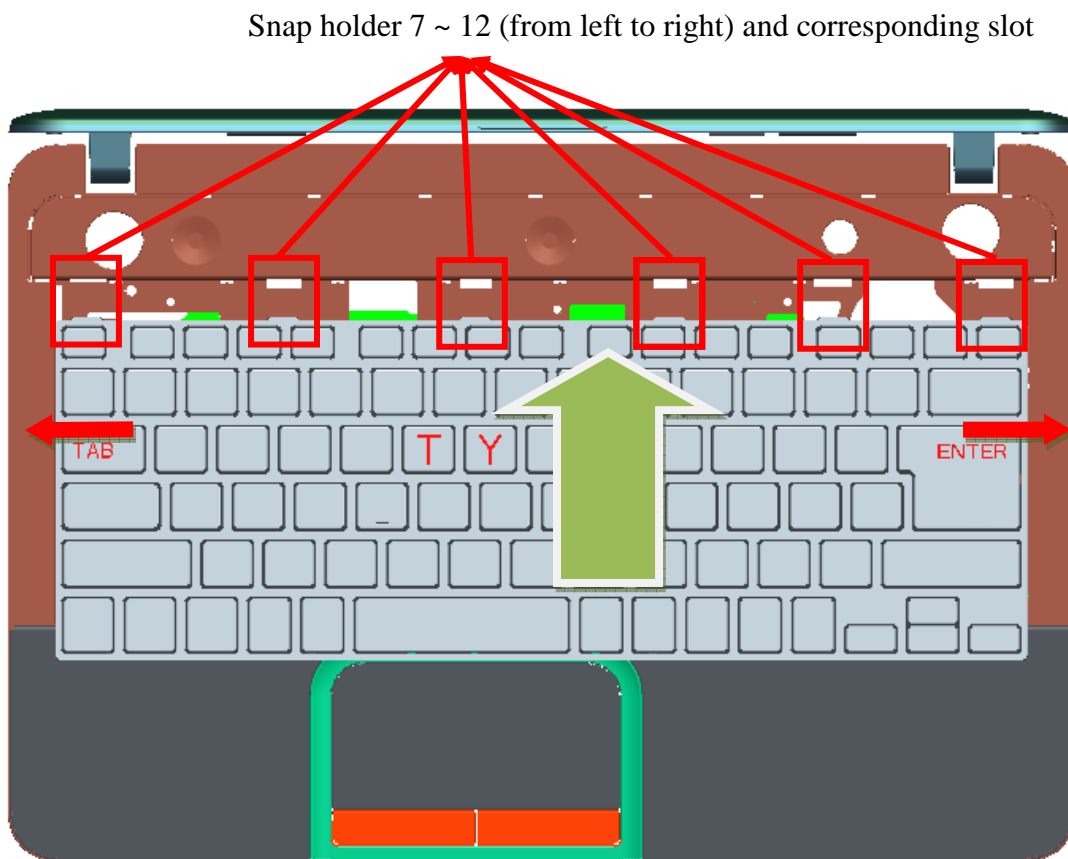
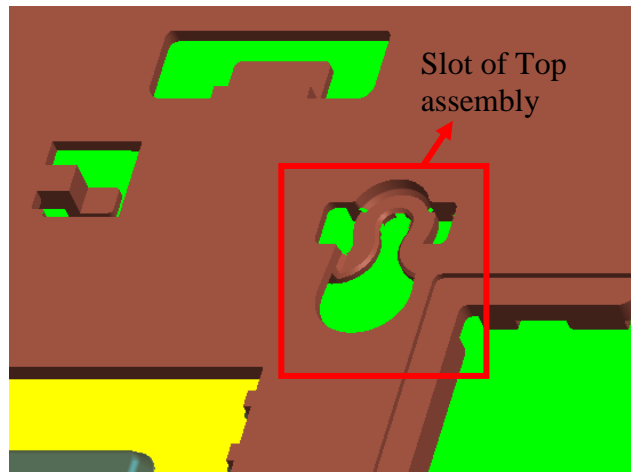

Figure 4-7-5 Press snap holder
Figure 4-7-7 Slot of Top assembly
3. Pressure the gap between the keycap “Y” and keycap “T” to insert the alignment boss (on the rear side of KB) into slot of Top assembly. (See Figure 4-7-5 ~ Figure 4-7-7)